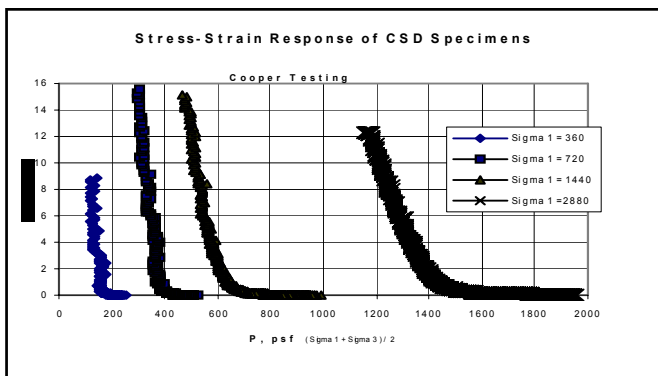
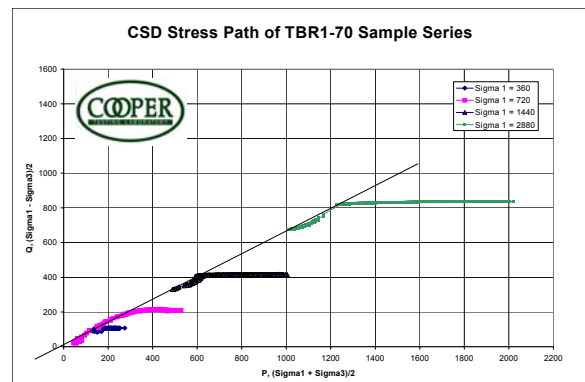

Figure 1
Figure 2
(2.5). The consolidation phase took typically 36 to 48 hours. Once the samples were fully saturated and consolidated the loading can begin. The axial load and confining pressures were held constant while the back-pressure was increased at a rate of 0.1 psi per hour to insure a fully drained condition. The strain was measured throughout the entire test as shown in figure 1. Four samples were tested per strength envelope. The stress path of each was plotted on a P vs. Q diagram. As shown in figure 2 the test progresses from right to left. The line is horizontal for most of the test because the sample can support the axial load so the shear stress (Q) is constant. As the confining pressure is reduced to the same degree the pore-pressure increases the line will start to drop down toward the origin. The sample starts to strain because it can no longer support the axial load due to the decrease in confining pressure, (see figure 1). This is the yield point. This is the begin-